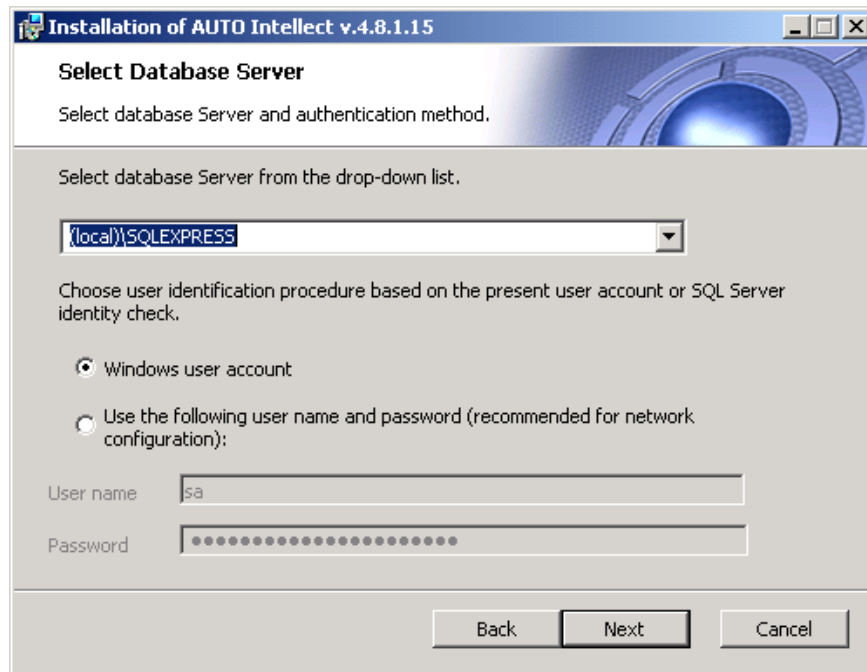

Fig. 6.3-3 Dialog box to select a database server
Step 4. Now database MS SQL Server should be selected and authorization parameters while connecting should be stated (see Fig. 6.3-3)
To save all changes and continue the installation process click “Next” (see Fig. 6.3-3)